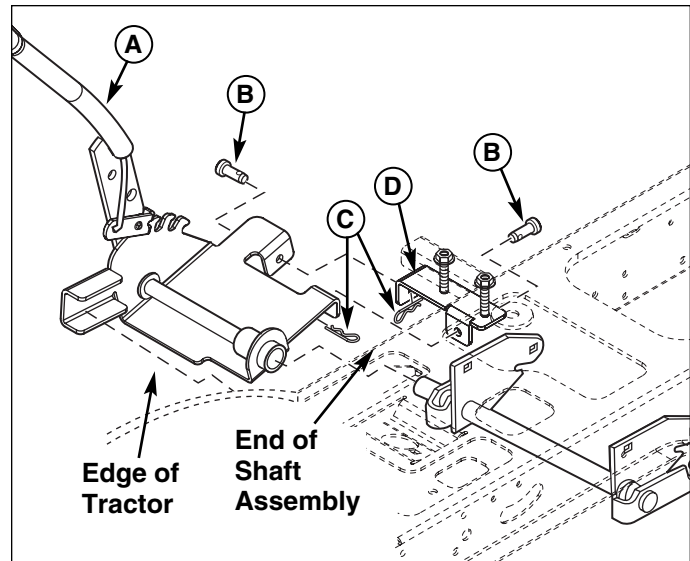

Figure 8. Install Lift lever Assembly.
1. Slide the lift lever assembly (A, Figure 8) on to the end of the shaft assembly and on to the edge of the tractor.
2. Secure to mounting bracket (D) using clevis pins (B) and hair pin (C).